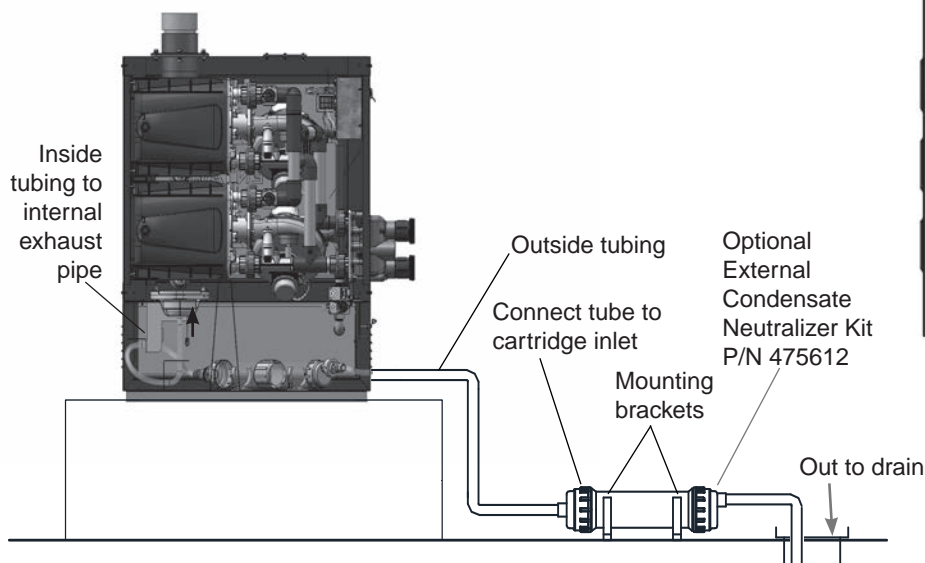
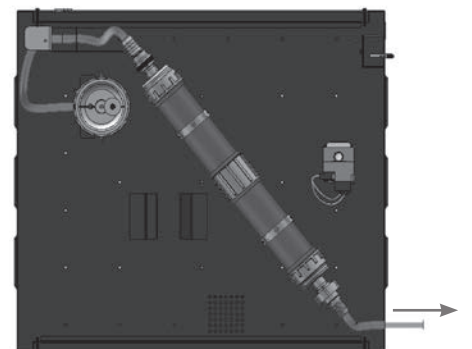

Figure 29. External Neutralizer Cartridge for indoor heater Installation
Figure 30. Internal Neutralizer Cartridge installed on base of heater for outdoor heater Installation
3. **Indoor Heater Installation (Figure 29):** Mount the neutralizer cartridge on the floor near the side of the heater. **Outdoor Heater Installation (Figure 30):** Using the provided brackets, secure the neutralizer cartridge onto the heater base.
- Connect the BLUE PLUG (120 VAC) into the 12-pin plug located on the electrical panel, see Figure 30).
- Connect the RED PLUG (240 VAC) into the 12-pin plug located on the electrical panel, see Figure 30).